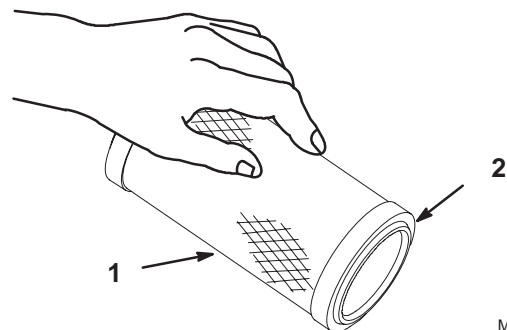

Figure 39
1. Lightly tap the element on a flat surface to remove dust and dirt (Fig. 39).